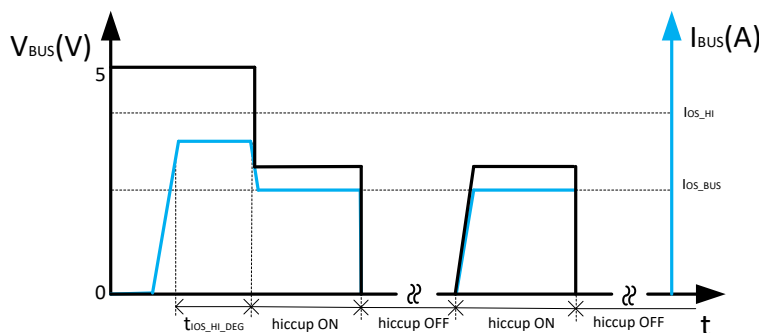

FIG 10-6. BUS Overcurrent Protection
- The second condition is the load current increases above I_{OS_BUS} but below the I_{OS_HI} setting. The device allows the USB port to output this large current for $t_{IOS_HI_DEG}$, without limiting the USB port current to I_{OS_BUS} . After the $t_{IOS_HI_DEG}$ deglitch time, the device limits the output current to I_{OS_BUS} and works in a constant current-limit mode. If the load demands a current greater than I_{OS_BUS} , the USB output voltage decreases to $I_{OS_BUS} \times R_{LOAD}$ for a resistive load, which is shown in Figure 10-6. If the overcurrent limit condition lasts longer than 4.1 ms, the corresponding USB channel enters hiccup mode with 524 ms of off-time and 4.1 ms of on-time. Another USB channel still works normally.